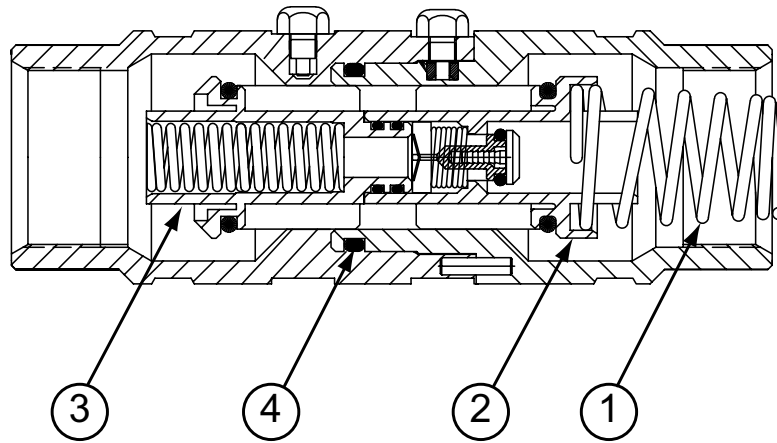

Figure 1: 715VV Kit Component Location
5. Turn the new Valve (#2) so the larger end is up and drop it into the threaded end of the Breakaway Assembly. *Refer to Figure 1.*
6. Place the new conical spring (#1), with the larger end down, on top of the Valve (#2) installed in step 5. Press in Place. *Refer to Figure 1.*